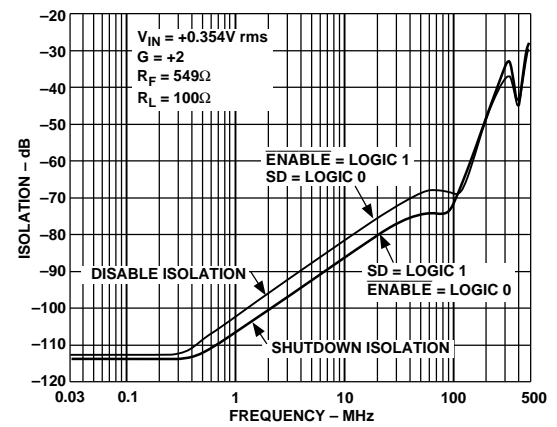

Figure 14. AD8174R Disable and Shutdown Isolation vs. Frequency
7AD8174 only. Shutdown (SD) pin is grounded. Mux is disabled, (i.e.,  $\overline{\text{ENABLE}} = \text{Logic 1}$ ) and all inputs are driven simultaneously with  $V_{IN} = 0.354$  V rms. Output is monitored at  $f = 5$  MHz and 30 MHz;  $R_L = 100$  Ω. In this mode, the output impedance of the disabled mux is very high (typ 10 MΩ), and the signal couples across the package; the load impedance and the feedback network determine the crosstalk. For instance, in a closed-loop gain of +1,  $r_{\text{OUT}} \approx 10$  MΩ, in a gain of +2 ( $R_F = R_G = 549$  Ω),  $r_{\text{OUT}} = 1.1$  kΩ (see Figure 14).
8AD8174 only.  $\overline{\text{ENABLE}}$  pin is grounded. Mux is shutdown (i.e., SD = Logic 1), and all inputs are driven simultaneously with  $V_{IN} = 0.354$  V rms. Output is monitored at  $f = 5$  MHz and 30 MHz;  $R_L = 100$  Ω. (see Figure 14). The mux output impedance in shutdown mode is the same as the disabled mux output impedance.